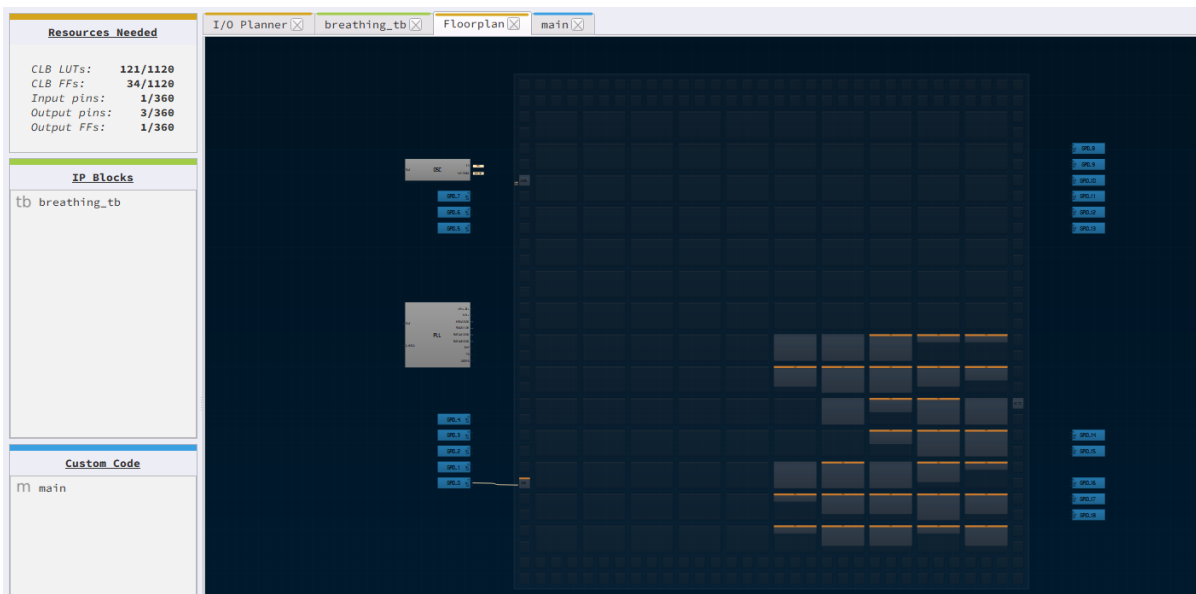

Figure 3: Single Channel Breathing CLB Utilization
The Floorplanner tab in the FPGA Editor shows the placement of CLBs and FFs (Figure 3). The resource utilization is shown in the top left corner.
8. Now click on the Floorplan tab and see the CLB utilization (Figure 3). Press the Ctrl and the mouse wheel to zoom-in. Confirm that the IOs selected in the IO Planner are shown in the floorplan.